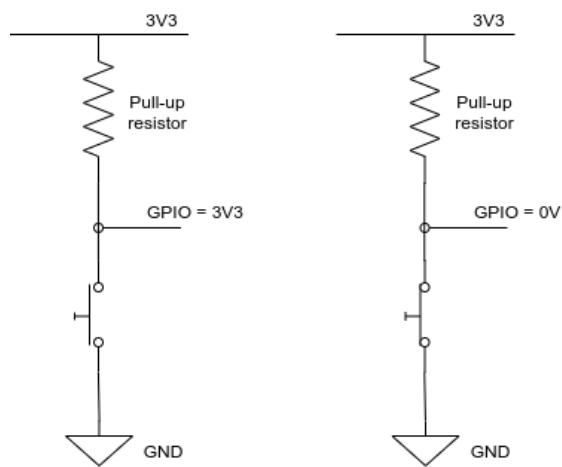

Figure 8.10: Input pin with an internal pull-up resistor
2. Configure the GPIO pin to use an internal pull-up resistor, so it stays at 3V3. Connect one end of the button to the GPIO input pin, the other end to the ground. When the button is pressed, the GPIO pin is short-circuited with the ground, so its voltage is drawn down to 0V. (Figure 8.10)